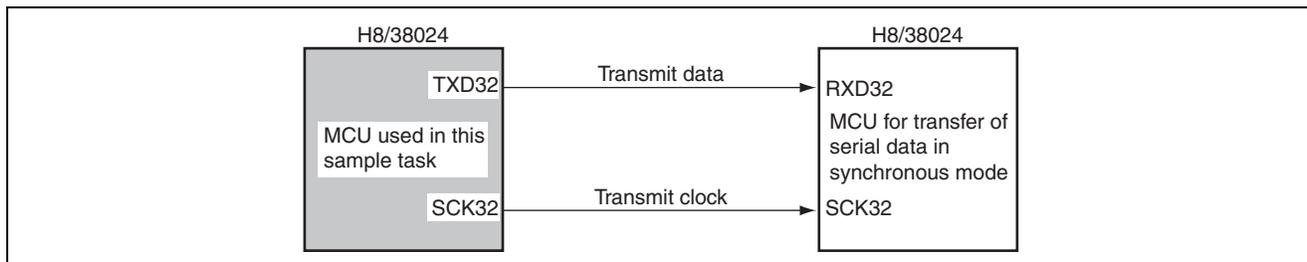

Figure 1.1 Serial Data Transmission in Synchronous Mode
1. As shown in figure 1.1, four bytes of 8-bit data is transmitted using the serial data transfer function in synchronous mode.